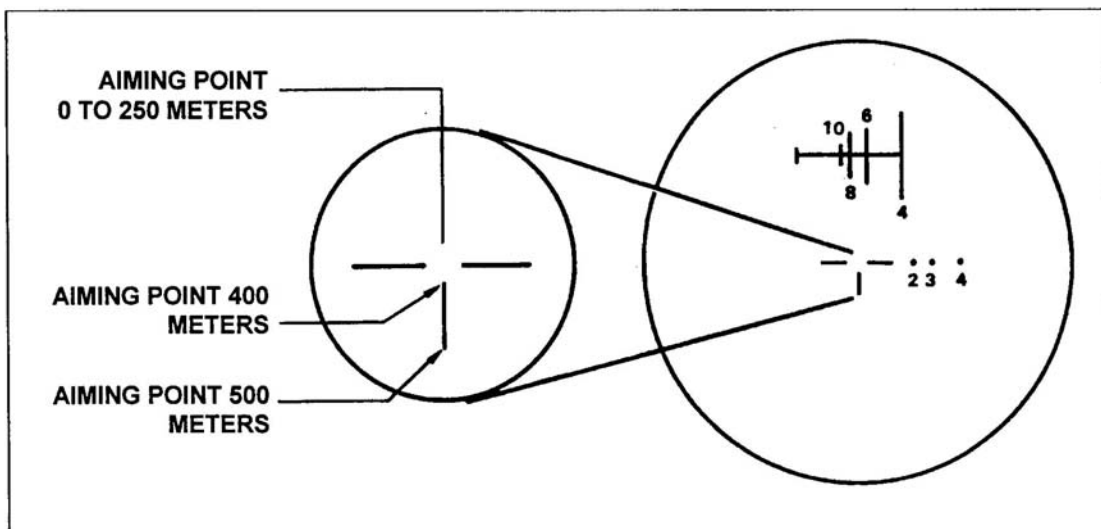
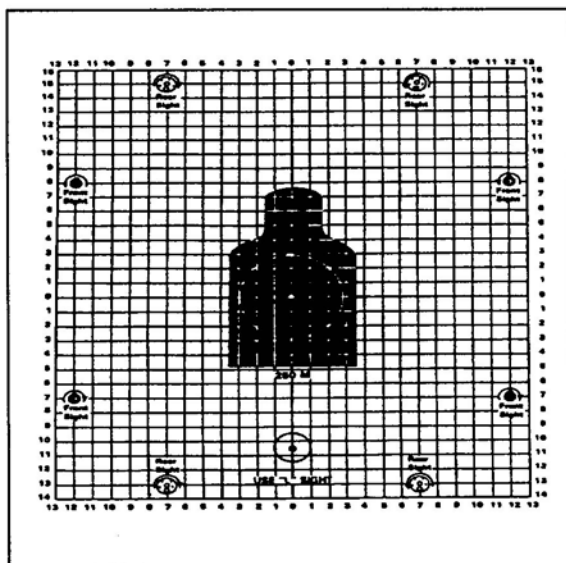
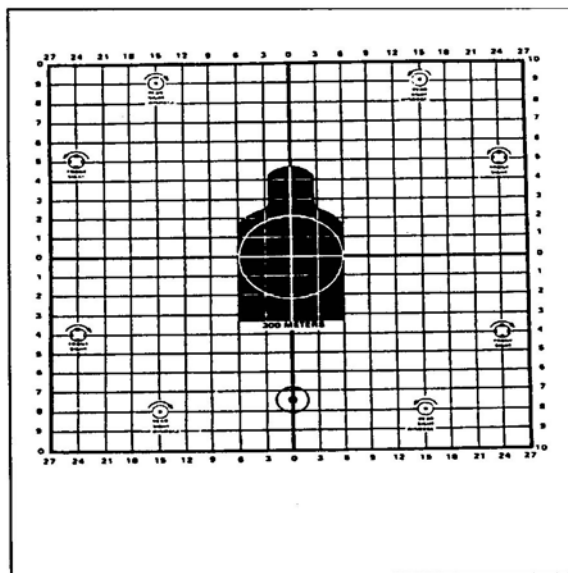
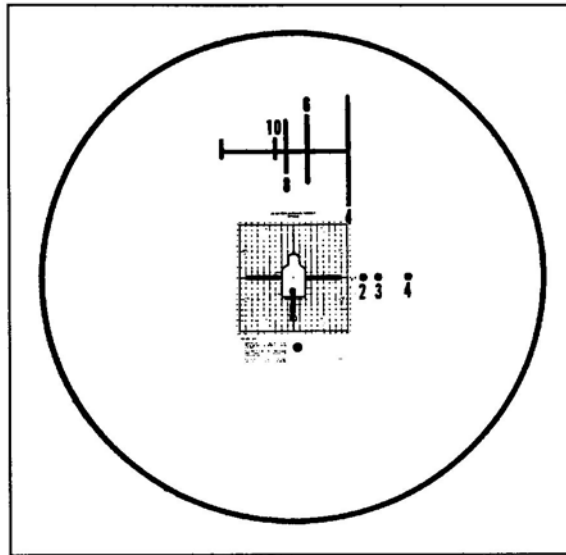

Figure 1. Zero aiming point.
Figure 2. M16A1 zeroing target.
Figure 3. M16A2 zeroing target.
Figure 6. Sight picture and zeroed shot group.
5. Place the zeroing range aiming point of the reticle on the target aiming point; fire three rounds to obtain a good shot group (Figure 1). Use either the M16A1 25-meter zero target shown in Figure 2 or the M16A2 25-meter zeroing target shown in Figure 3. When zeroing the night vision sight, you can use either of these targets with either the M16A1 or M16A2 rifle. Use the marginal information on the target to adjust the sights on the rifle--not the night vision sight.
on the M16A2 target) directly below the target aiming point (Figures 2 and 3). Mark the reticle adjustment actuators to show the direction of round impact movement.
- b. On the M16A1 zero target, 1-1/2 squares equals 1 centimeter and 10 1/2 squares equals 7 centimeters (Figure 2). On the M16A2 zero target, each square is .9 centimeter and 7.8 squares equal 7 centimeters (Figure 3).
8. During zeroing, make sure the soldier places reticle aiming point (Figure 1) on the target aiming point in the silhouette's center of mass. Figure 6 shows what a zeroed shot group should look like.